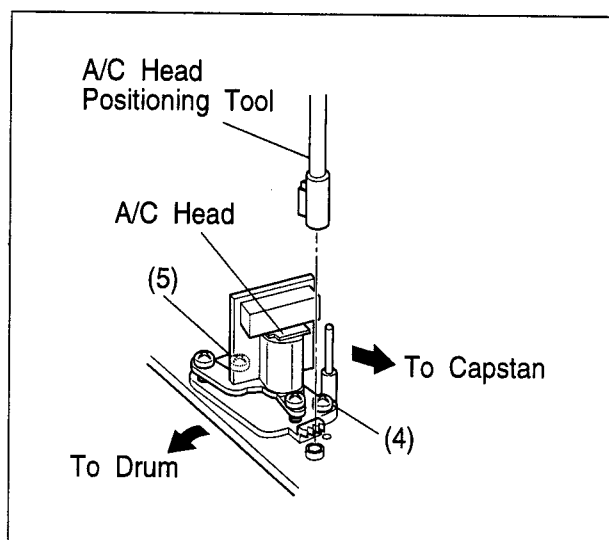

Fig. 2-7-6
- (4) If adjustment is required, slightly loosen screws (4) and (5). Set A/C head positioning tool on the A/C head adjusting boss as indicated in Fig.2-7-6.
- (5) Adjust A/C head to maximize the FM output and also, the phase difference between audio and FM signal of its "no-recorded" portion become less than 3 field as shown below.
- (6) Tighten screw (5) and (4).
- (7) Playback the alignment tape [MHPE].
- (8) Set the neutral manual tracking position by simultaneously pressing the "-" and "+" tracking buttons.
- (9) Press the "+" and "-" tracking buttons to confirm maximum playback FM waveform output level at the neutral manual tracking position.
- (10) If not maximum, slightly loosen the screws (4) and (5). Use the tool and adjust the head position for the nearest maximum point. Then tighten screws (4) and (5).
- (11) Check "2.7.4 X-value check".